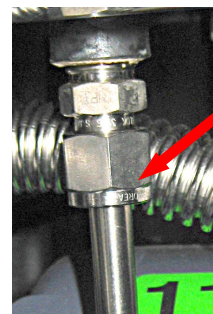

Figure 14
- switch (see Figure 14). Remove the side access panel if applicable.
10. Carefully loosen the compression fitting around the bottom of the float switch (see Figure 14).